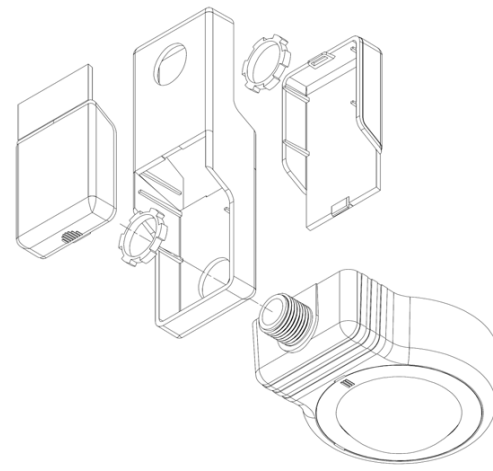

Figure 2
6. From the outside of the adaptor, insert the sensor's wires and threaded nipple into the second adaptor knockout (See Figure 2).
10. Verify sensor is correctly positioned (lens facing down), and then tighten all (3) lock-nuts.
- b. **Dual Relay Sensor:** See Wiring Diagram A. Black lead to Line (Hot); Red lead to Load (A); White lead to Line (Neutral), Violet lead to Line (Hot), Blue lead to Load (B).
- c. **Dual Relay Sensor connected to a switching ballast:** See Wiring Diagram B. Black lead to Line (Hot); Red lead to Gray wire from ballast; White lead to Line (Neutral), Violet lead to Line (Hot), Blue lead to Load (B). NOTE: Disable Smart Cycling for this configuration.